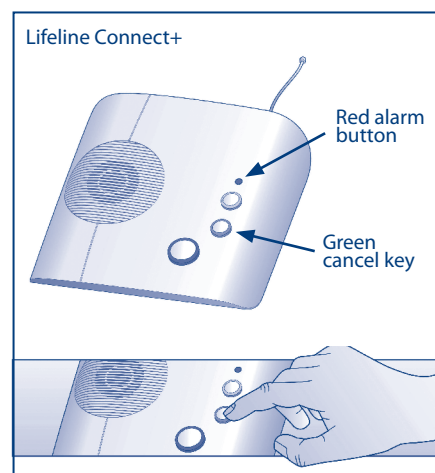

Figure 4
- i) Press and hold down the green cancel key located on the Lifeline unit (see fig 4) until it beeps (approx. 5 seconds), then release the green cancel key and the LifeLine unit will beep twice. The red alarm button will flash slowly.
- v) Make a test call using the programmed telecare-enabled battery (see fig 4) by pressing its red button and ensure it raises an alarm call.